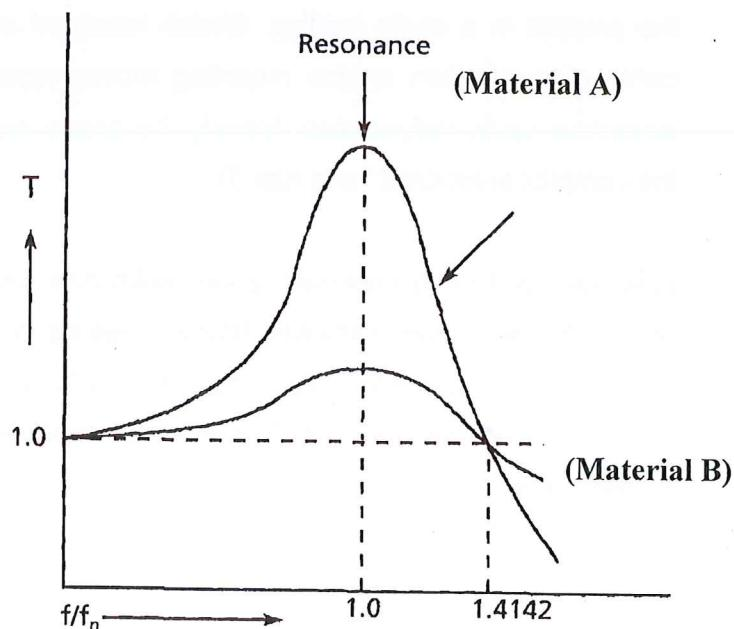

Figure 1: Transmissibility curves of high and low damping rubbers
5. [a] Transmissibility curves of high and low damping rubbers is shown in Figure 1. Discuss the important of transmissibility parameters at $f/f_n = 1.0$ and 1.4142 and suggest which material has high damping performance.